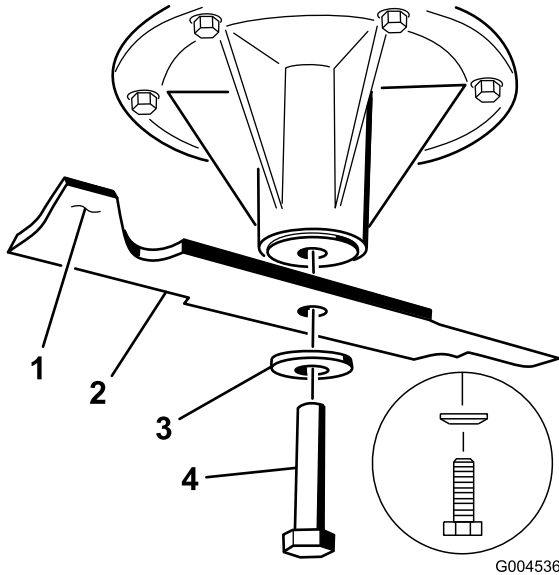

Figure 97
the sail area only (Figure 97). Repeat this procedure until the blade is balanced.
1. Install the blade onto the spindle shaft (Figure 97).
2. Install the spring disk and blade bolt. The spring disk cone must be installed toward the bolt head (Figure 97). Torque the blade bolt to 85-110 ft-lb (115-150 N-m).